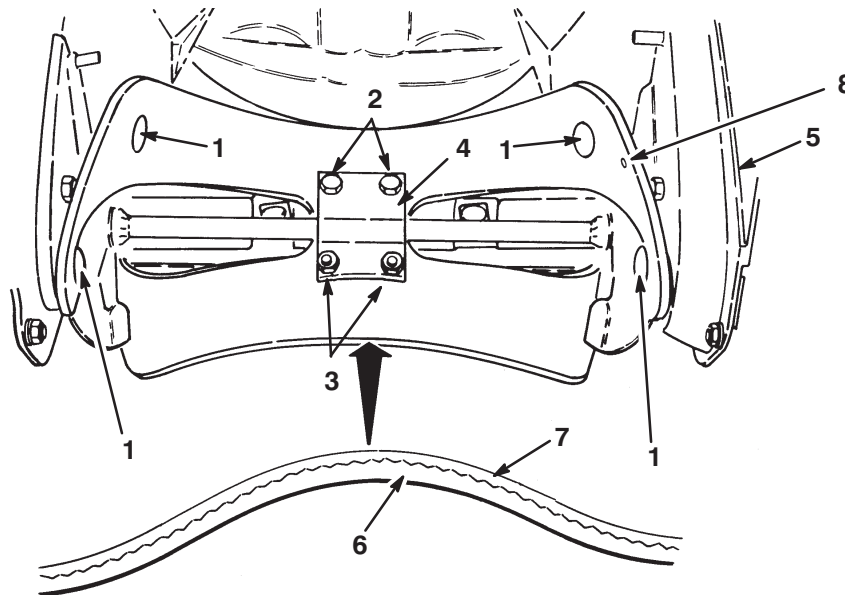

Figure 15
2. Slide the blade out from between the blade supports (Fig. 15).
1. Examine a new rotor blade edge for the difference in layer thickness (Fig. 15). Some rotor blades have a part number on the thick side of the blade.
Install the rotor blades with the thick layer on the **inside** of the curve. (Fig. 15). If you do not install the blades properly, the blades may be out of balance and cause the snowthrower to “hop” or “bounce.”
4. Position the screw heads on the thick layer side of the blade (Fig. 15).
5. Curve the blade and secure it with the remaining four torx screws and locknuts, positioning the screw heads on the thick layer side of the blade (Fig. 15).